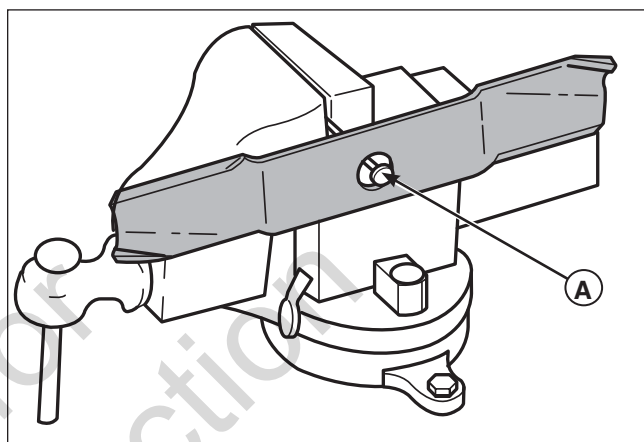

Figure 25. Balancing the Mower Blade
2. See Figure 25. Put the mower blade on a nail in a vise and turn the blade to the horizontal position.